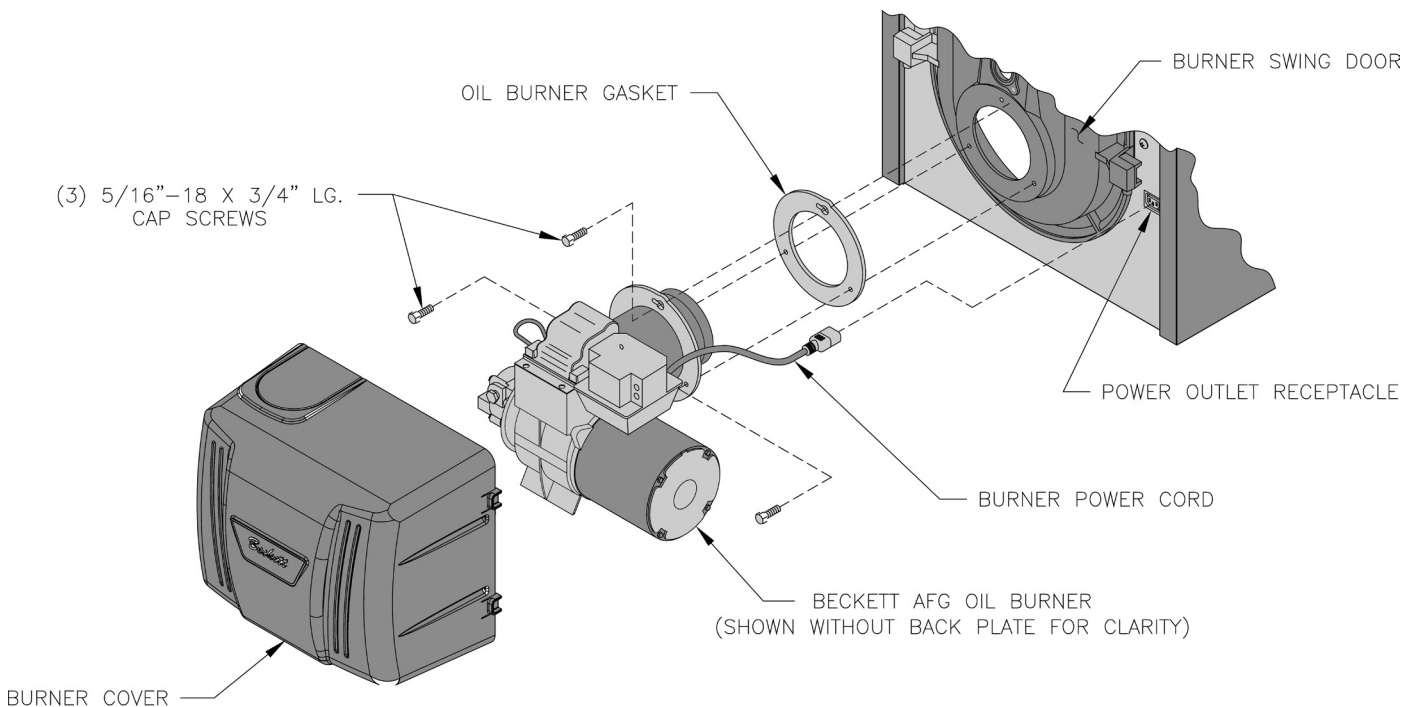

Figure 2-10: Beckett Oil Burner Installation
5. **Install oil burner.** (See Figure 2-10)